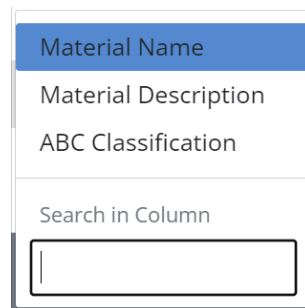

Figure 4: Filter Options - Text Input
- Text columns will have a text box input so that the user can filter the table with whatever text they input (Figure 4).